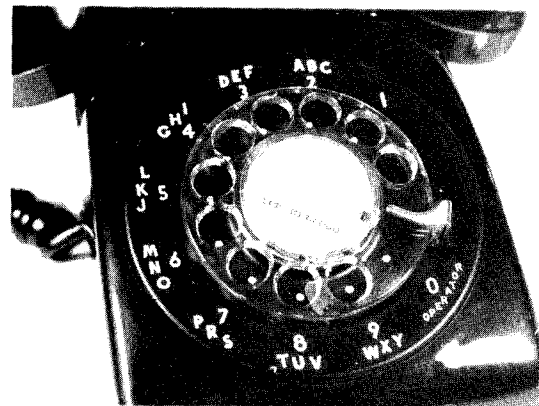

Fig. 3-3 REPLACING LUCITE FINGER PLATE
- f: Replace the gear train assembly (17), turning the gears so that the impulse cam (23) takes up the position shown in the descriptive sub-section for the particular dial, then tighten with screws (18).
- g: Tighten the nut (5), which was previously left loose, to hold the main gear securely.
- h: Place the spring assembly (24) in position, locating the ends of the springs correctly against the actuating cams (see individual descriptive sub-section), and secure with screws (25).
- i: Fit the number card (13), if required, in the finger plate (14), matching the notch in the card with the tab inside the recess of the finger plate, then replace the finger plate, see Fig. 3-3.
- l: Mount the dust cover (26) with screws (27).
- m: Replace the gasket (28) over the rim of the numeral ring.